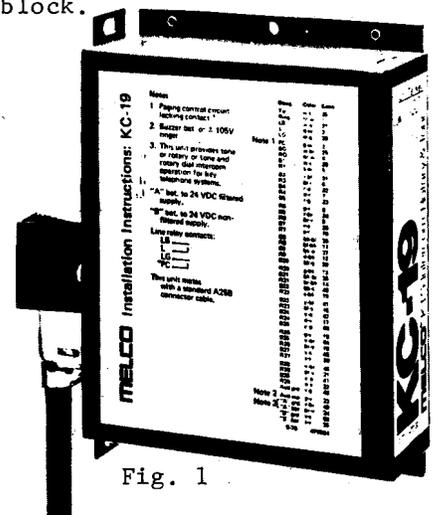

Fig. 1
1.03 The KC-19 provides 19-station intercom selective signaling for a key telephone system using tone and/or rotary dial telephone sets. The KC-19 Intercom with cable attached is shown in Fig. 1.